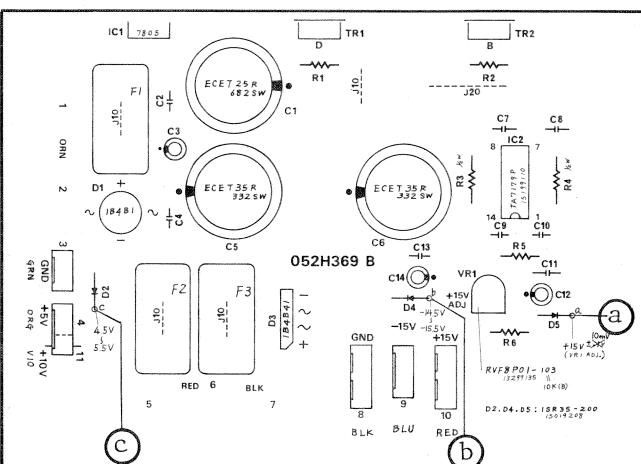

Fig. 24
- (1) Adjust VR1 for $+15V \pm 10mV$ at "a".
- (2) Check the voltage at "b". It should be $-14.5V$ to $-15.5V$.
- (3) Check the voltage at "c". It should be $+4.5V$ to $+5.5V$.
- Refer to Fig. 24.